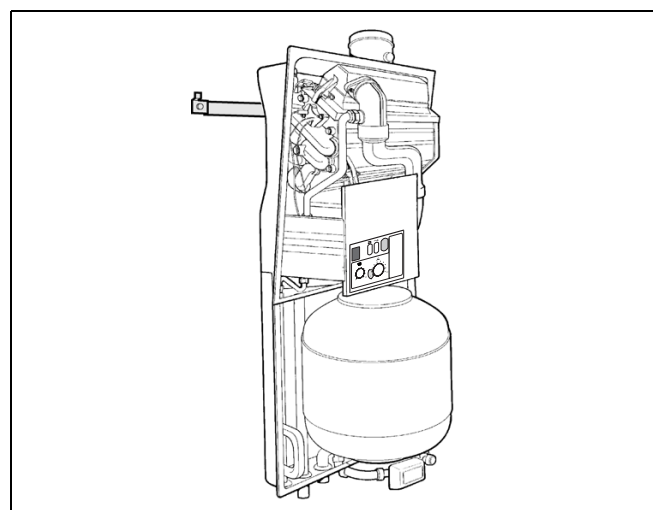

fig. 6 Installation
- Attach the gas boiler to the wall bracket (fig. 6).